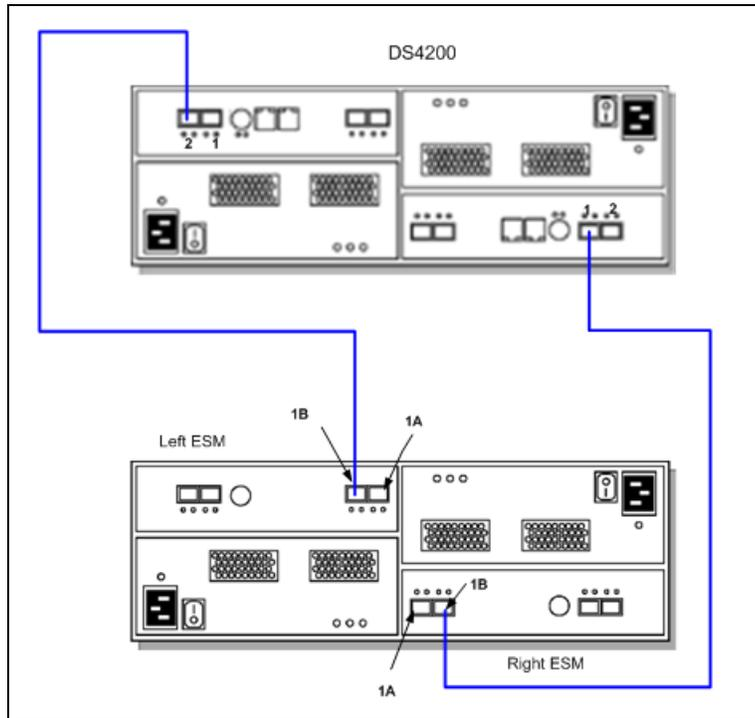

Figure 3-12 DS4200 drive cabling with one EXP420 enclosure
- ▶ If you attach only one enclosure, make sure that you have one connection to each of the controllers, thus using one of the two ports on each controller, as shown in Figure 3-12.